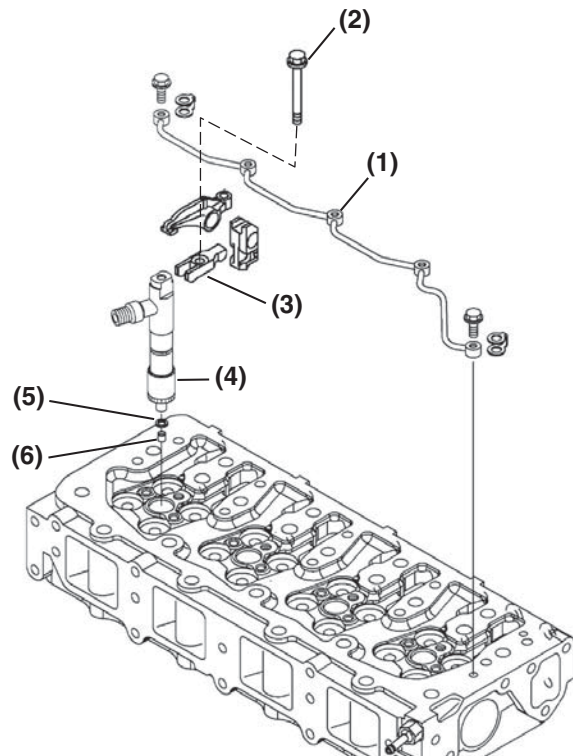

Figure 7-59
1. Reinsert a new nozzle seat (**Figure 7-59, (6)**) and nozzle protector (**Figure 7-59, (5)**) in the cylinder head for each injector.
3. Reinsert each fuel injector (**Figure 7-59, (4)**) into the cylinder head.
4. Reinstall the fuel injector retainers (**Figure 7-59, (3)**) and torque the retaining bolts (**Figure 7-59, (2)**) to specification.